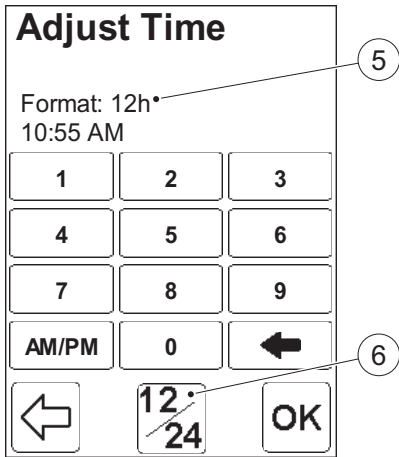

FIGURE 3-39
b) Enter the current date with the Digit buttons (2).
c) Press the Confirm button (4). *FIGURE 3-39* will be displayed.